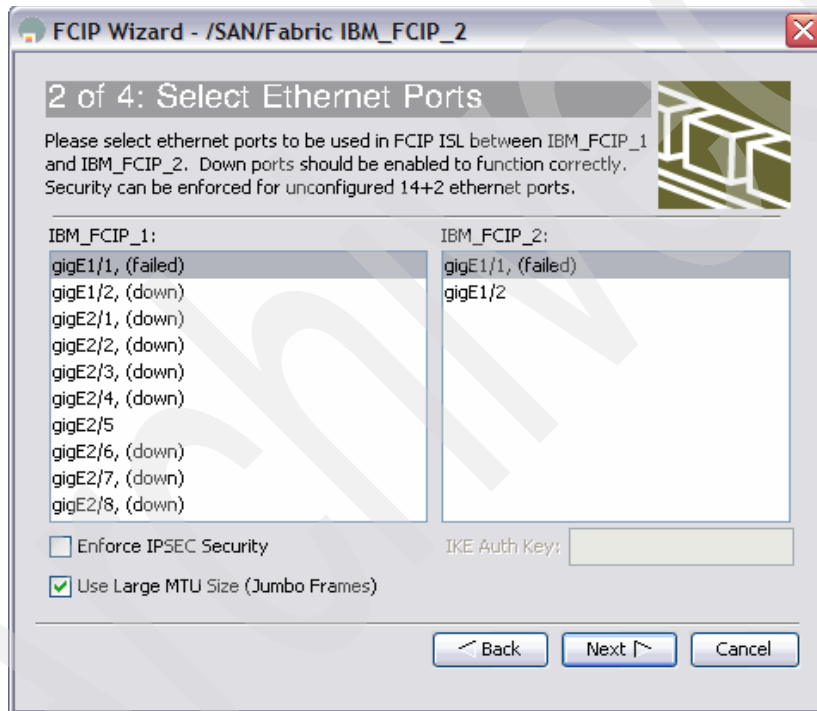

Figure 12-13 GigE ports showing failed status
**Note:** The interfaces will show failed, as shown in Figure 12-13 on page 344, if you do not have the GigE interfaces connected to your LAN. Cable your physical ports to your LAN, and restart the wizard to correct this.